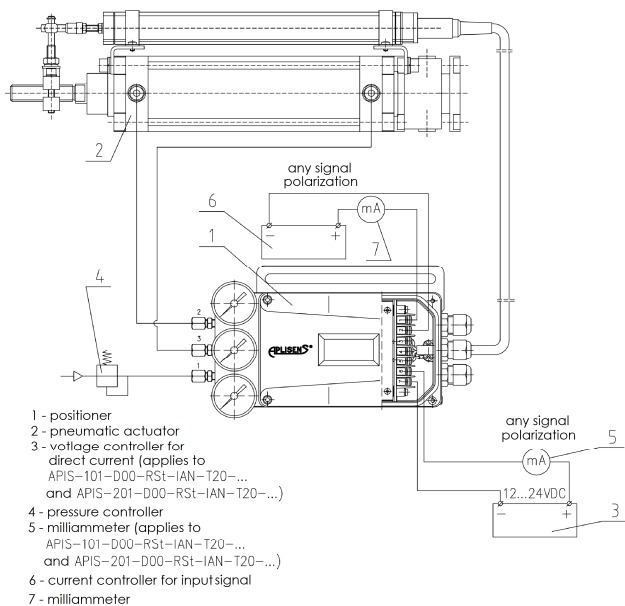

Fig. 20. Diagram of meter circuit for starting of the APIS-101-... and APIS-201-....positioner
- Positioner APIS-101-... and APIS-201-... installed on actuator acc. to point 9.6. is to be connected with measuring system acc. to diagram shown on Fig. 20.